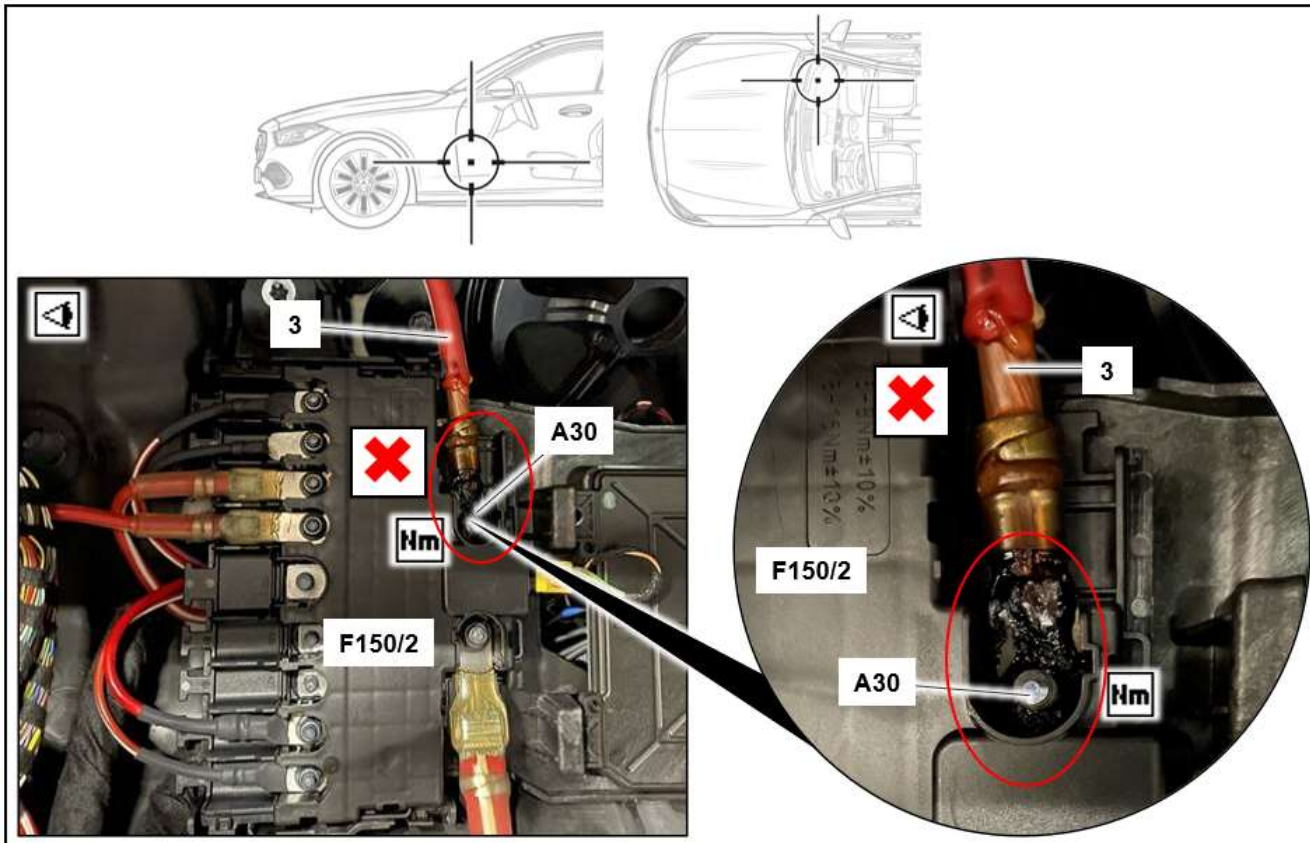

Figure 2 (prefuse box with thermal damage, NOK)
4. Inspect electrical connection (**Figure 2, A30**) of prefuse box **F150/2** visually for physical damage, such as arcing, scorch marks, melting and/or missing nut.
- If there is no damage to the electrical connection (**Figure 2, A30**), remove electric line (**Figure 2, 3**) at A30 connection and inspect the underside for damage. If there is no damage, re-install the electrical connection with nut (tightening torque of **16 Nm**) and **End Measure**.
- If there is damage to the electrical connection (**Figure 2, A30**), carry out **Work Procedure**.
**i** Replace damaged prefuse box (Figure 2, F150/2) and/or install missing nut on electrical connection (Figure 2, A30). For basic information, see AR54.15-P-1350WT.